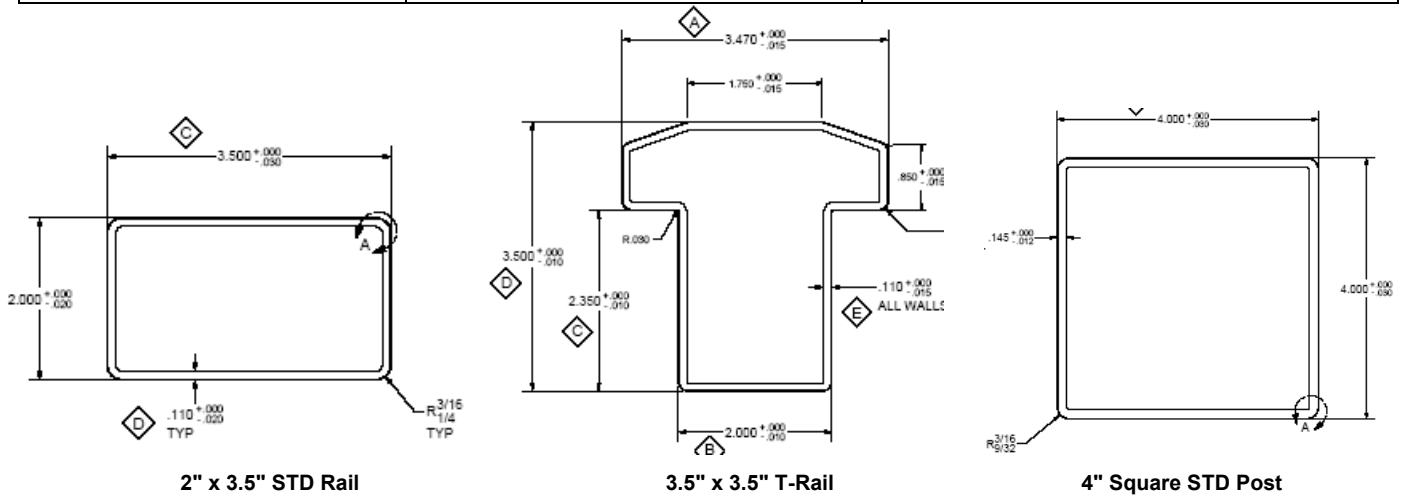

FIGURE 1 – PVC PROFILE DRAWINGS
3.3.1 The top and bottom rails are extruded PVC profiles of various styles. See Figure 1, Table 1, Table 2, and Table 3.
3.3.5 A 4-inch square extruded PVC post has a nominal wall thickness of 0.145 inch. See Figure 1.